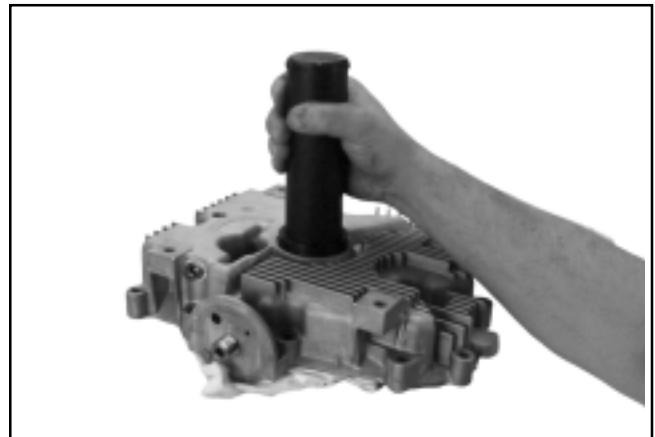

Figure 11-13. Installing Oil Pan Seal.
3. Drive the oil seal into the oil pan using a seal driver. Make sure the oil seal is installed straight and true in bore and that the tool bottoms against the oil pan. See Figure 11-13.